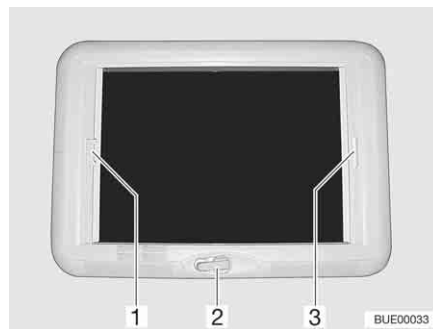

Fig. 91 Wind-up skylight
Opening: ■ Rotate the hand crank (Fig. 91,2) until a resistance can be felt.
Closing: ■ Pull the handle of the Roman shade (Fig. 91,3) and release in the desired position. The Roman shade will stay in that position.
- Pull insect screen at the handle (Fig. 91,1) to the opposite handle of the Roman shade (Fig. 91,3) and allow to engage.
- Press the handle of the insect screen (Fig. 91,1) at the back upwards and detach the insect screen from the Roman shade (Fig. 91,3).